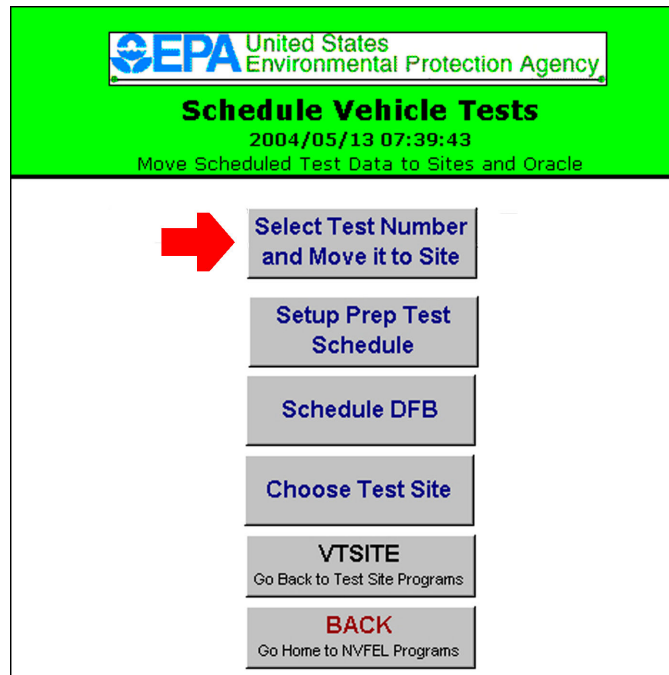

Figure 2
- 7.7.4 On the "Schedule Vehicle Tests" screen, click on the "Select Test Number and Move it to Site" button. See the arrow in Figure 2.